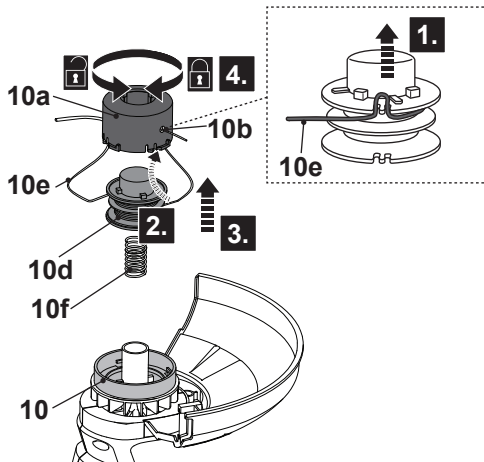

Fig. 15
6. Release the trimming line (10e) from the notches and hold it in position. Avoid the trimmer line (10e) scattered from the trimming spool (10d) (Fig. 15, Step 1).
7. Lead the trimming line ending through the eyelet (10b) on the housing (10a) (Fig. 15, Step 2).
9. Insert the trimming spool (10d) into the housing (10a) (Fig. 15, Step 3).
10. Press down the trimming spool (10d) together with the housing (10a) against the spring (10f) and twist the assembly until it locks into place by hand (Fig. 15, step 4).